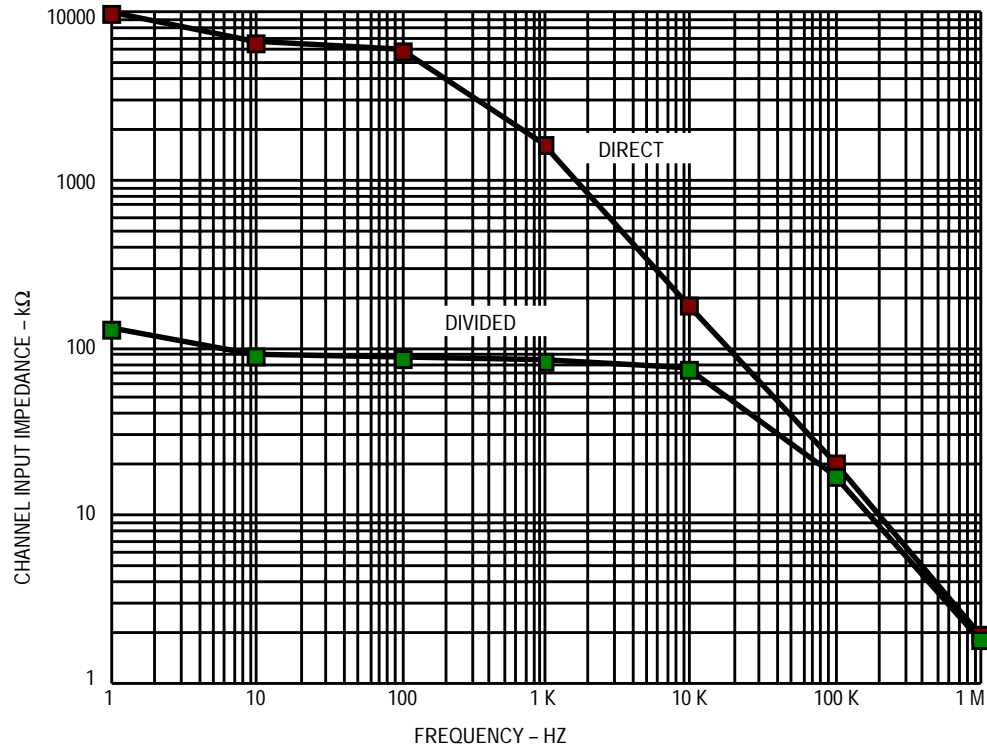

Figure 9. Typical Channel AC Input Impedance
2. Parasitic capacitances in the input and multiplexer circuitry will cause the input impedance to decrease with frequency as shown in Figure 9.
3. The input divider of 2:1 has an impedance of $120 \text{ k}\Omega$ at DC, but decreases at high frequencies due to the sample capacitor as shown in Figure 9.